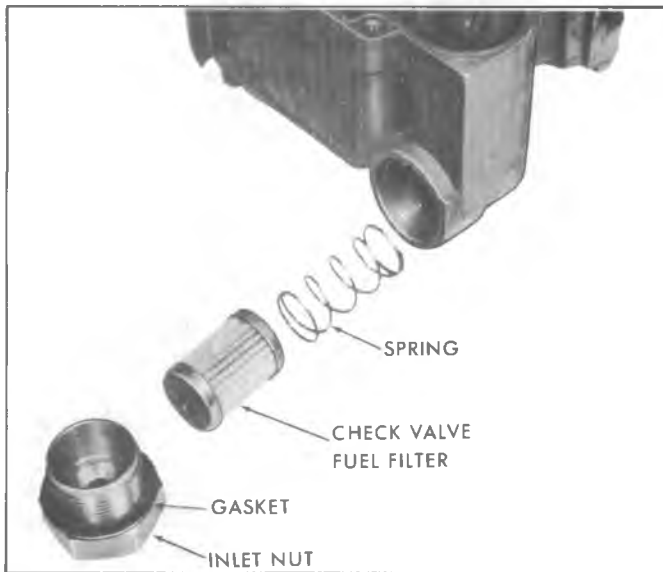

Fig. 6C1-22--Fuel Filter and Check Valve
11. Remove "T" guide and pump discharge spring using needle nose pliers (Fig. 6C1-21).